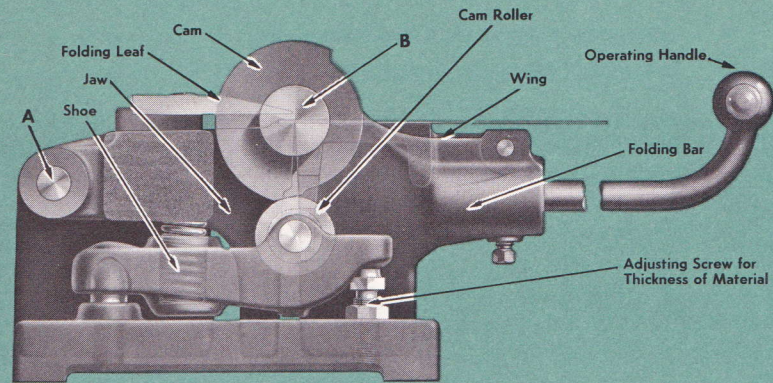
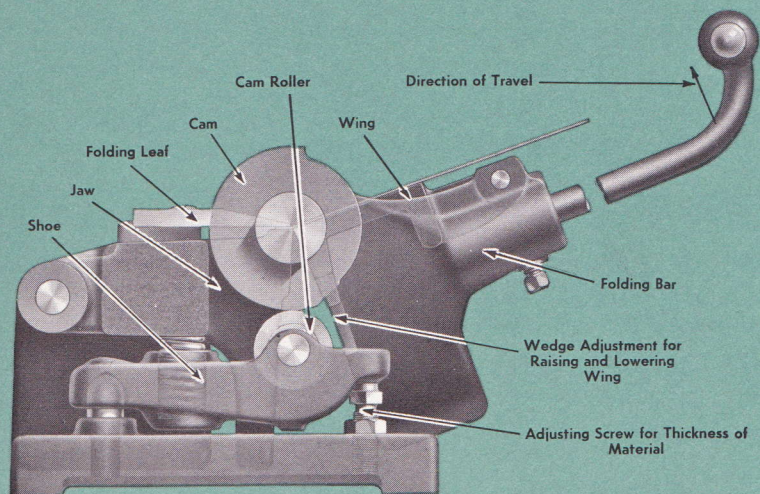

FIG. 8 Sheet in place ready for bending
FIG. 9 Sheet Clamped — Bend Started
With the sheet first inserted between the Folding Blade and the Jaw (Fig. 8), it is held against the Gage with one hand while the Operating Handle is pulled forward with the other. This single motion instantly and automatically raises the Jaw (Fig. 9), gripping the sheet between it and the Folding Blade, while the Folding Bar and Wing travel the remaining distance to complete the bend. Clamping and folding are practically simultaneous!
Clamping pressure or clearance for various thicknesses of material within the capacity of the machine is regulated by raising or lowering the Cam Rollers, carried in the two shoes at either end, by means of adjusting screws (Figs. 8 and 9).
**The Jaw**, pivoted at both ends (A), carries two large bearings for the trunnions (B) on which the Folding Bar turns.
**A pivoted Wing**, mounted on the Folding Bar and moving with it, is raised and lowered by a wedge adjustment (actuated by a rack and pinion mechanism) with locking nuts. Sharp bends, such as those commonly required for lock seams, are produced when the Wing is adjusted as shown in Fig. 9. Round bends, such as those required when inserting a wire for stiffening, are produced by lowering the Wing. Regardless of the position of the supporting wedges, the top of the Wing is always flush with the top of the Jaw, when the Bar Folder is in open or starting position. This alignment is assured by a guide pin under the Wing.
The weight of the Folding Bar and Jaw assembly exerts a constant pressure of the Cams against the Cam Rollers which are carried in two shoes at the ends of the machine (Figs. 8 and 9).
When the machine is in the open or starting position (Fig. 8), the *low* part of the Cams is in contact with the Cam Rollers. As the operating handle is lifted (Fig. 9), the Folding Bar turns on its trunnions, rotating the Cams. This brings the *high* part of both Cams in contact with the Cam Rollers, *raising* the Folding Bar and Jaw and causing the latter to clamp the sheet between it and the stationary Folding Blade. As the operating handle is pulled further forward, it *turns* the Folding Bar and Wing, forming the bend, while the Cams maintain a constant clamping pressure on the sheet.